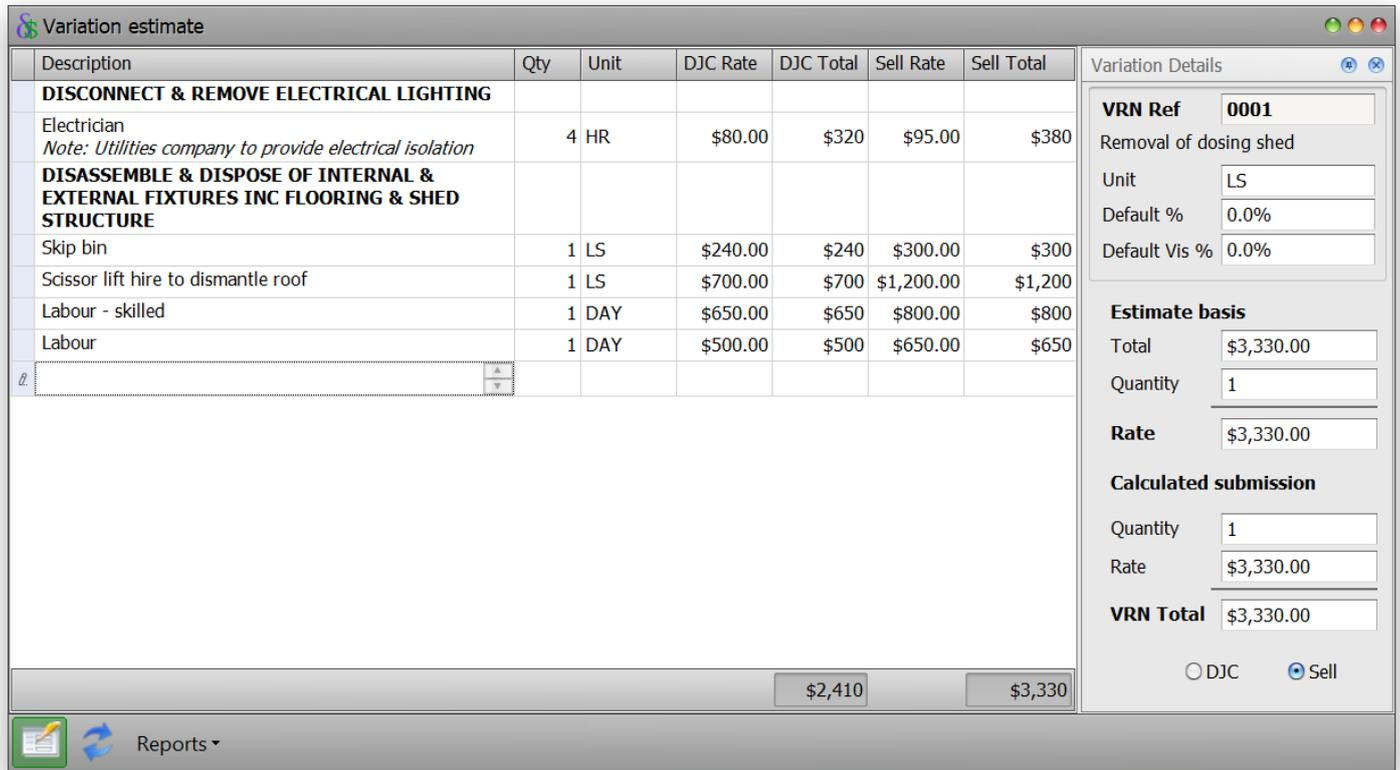

Figure 97 Manually Entered Variation Estimate Details
- The Variation Estimate screen will now appear. Enable editing and enter the details using the information in the Project Information Tutorial handout. Use tab to move between cells and to start new lines. When finished your screen should look like Figure 97.